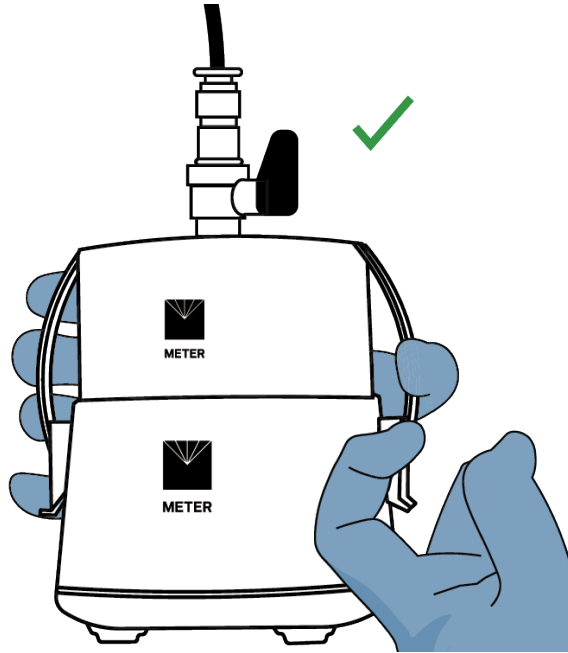

Figure 30 Remove air bubbles
29. Let the air bubbles rise up into the tube by cautiously knocking and shifting the sensor unit (Figure 30).